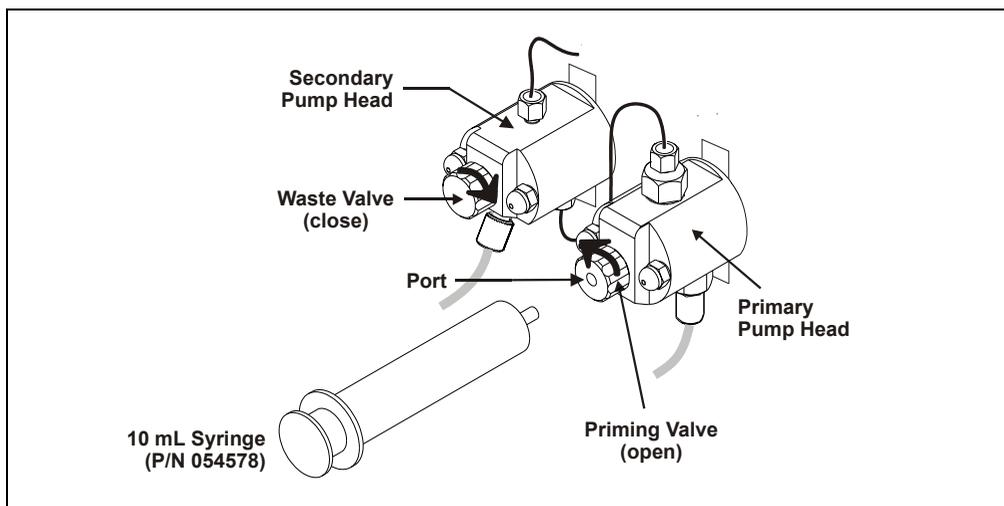

Figure B-23. Priming the Eluent Lines
2. Connect a 10 mL syringe (P/N 054578) to the port in the priming valve on the primary pump head (see Figure B-23).